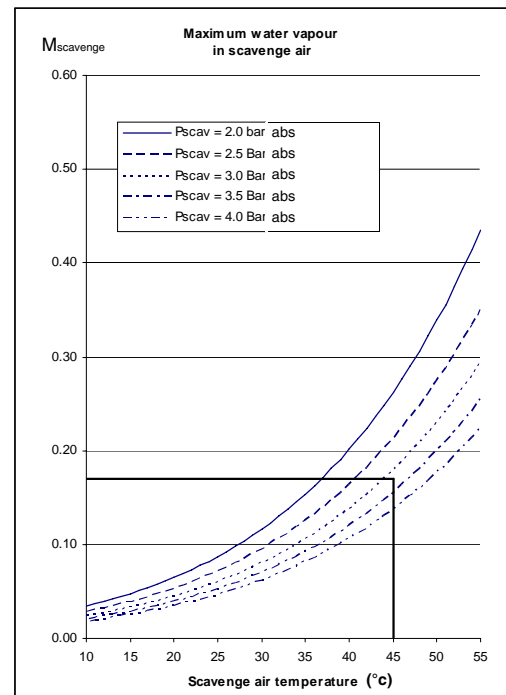

Figure 2
2. The maximum amount of water vapour in the scavenge air ( $M_{\text{scavenge}}$ ) is found in figure 2 based on measurements of scavenge air pressure and temperature.
- 2)  $M_{\text{scavenge}} = 0.17 \text{ kg/kWh}$  found from figure 2 (as outlined)